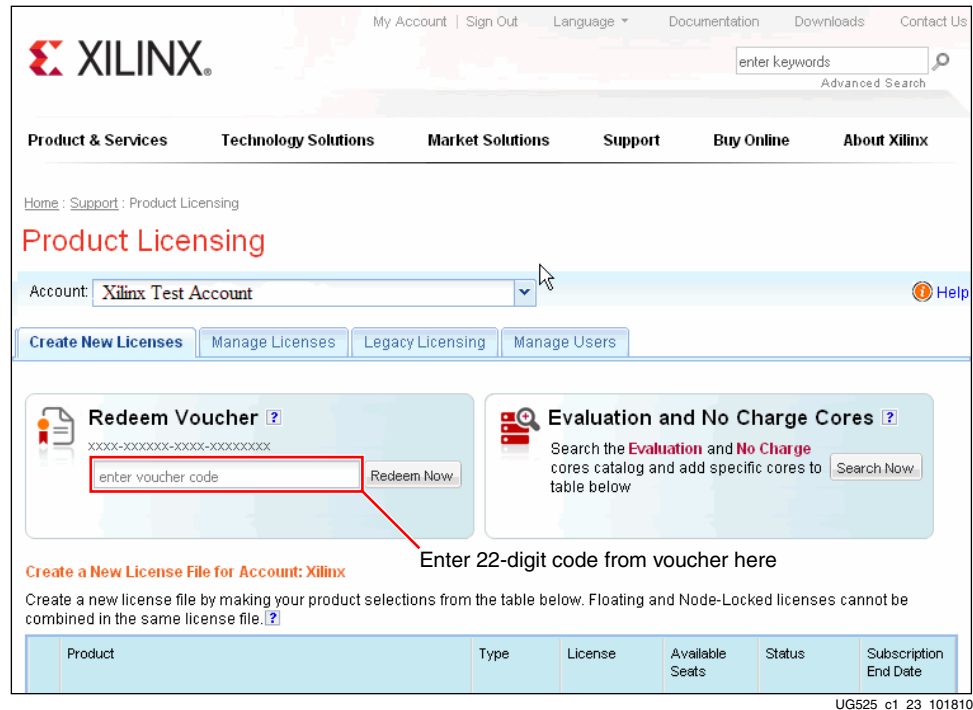

Figure 1-63: Redeem Voucher
4. Under the **Create New Licenses** tab, enter the 22-digit code from the voucher in the field shown in Figure 1-63. Click **Redeem Now**.